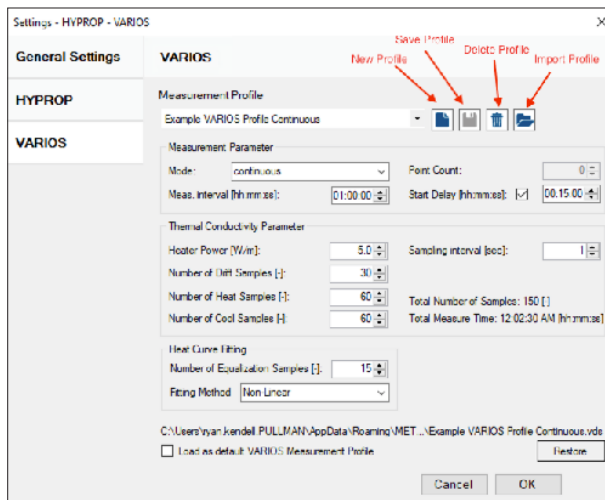

Figure 29 Generating a customized profile
- VARIOS Glycerin verification measurement (Figure 29)